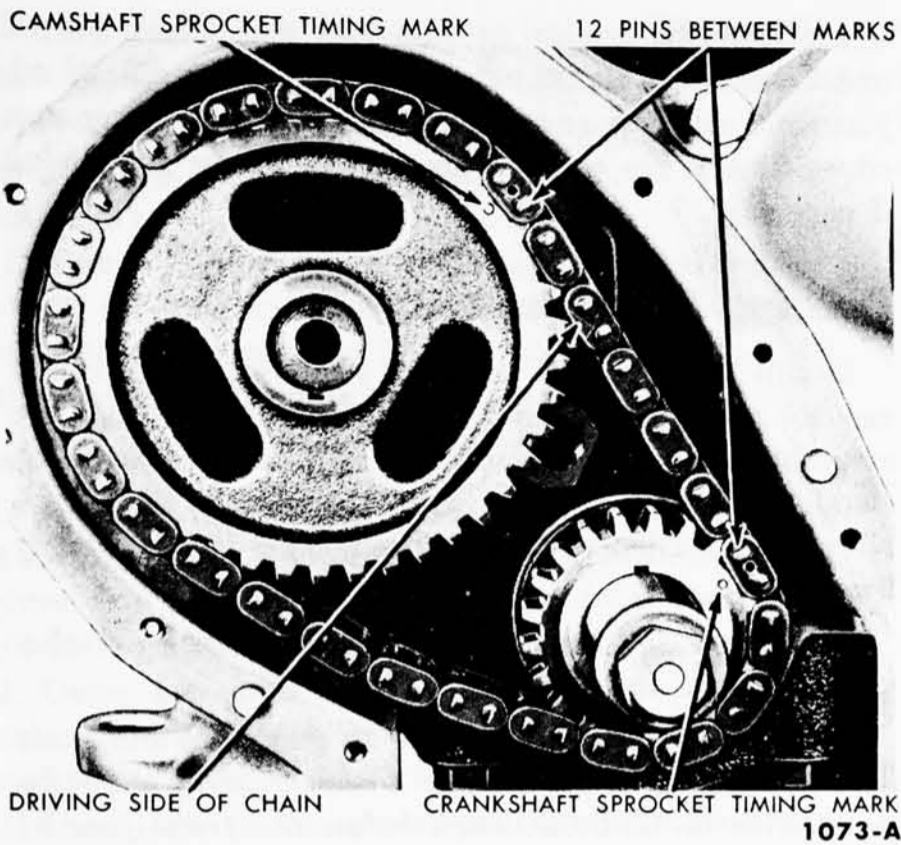

Fig. 22—Aligning Timing Marks
2. Crank the engine until the timing marks on the sprockets and chain are positioned as shown in Fig. 22.
2. Position the sprockets and timing chain on the camshaft and crankshaft. Be sure the timing marks on the sprockets and chain are positioned as shown in Fig. 22. There are 12 timing chain link pins between the timing marks on the sprockets.
4. Crank the engine until the timing marks on the sprocket and chain are positioned as shown in Fig. 22. Remove the camshaft sprocket bolt.